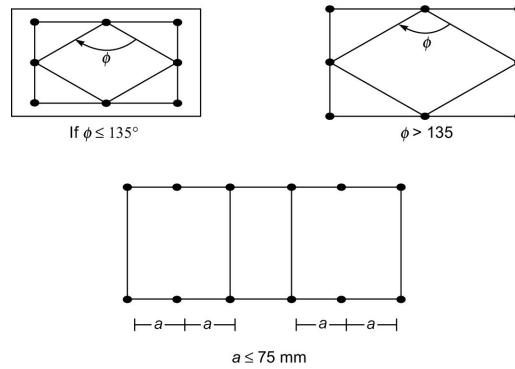

Fig. 7.3
* The pattern of transverse reinforcement should be as shown in Fig. 7.3